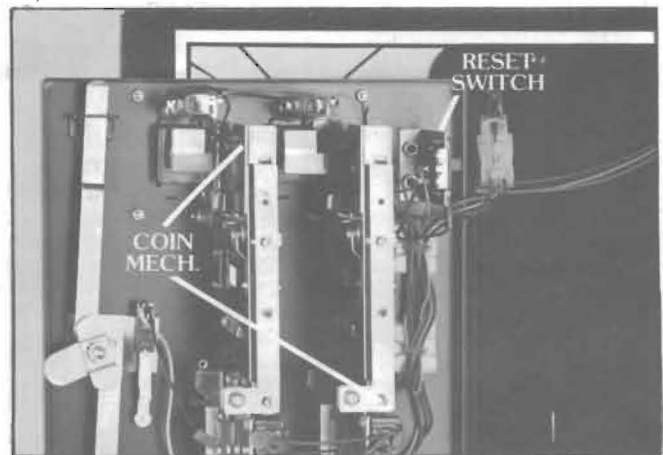

Figure 7. Coin door open, showing coin mechanism and reset switch.
If Power Up Sequence is incorrect, use of the reset switch will reset the game to the correct sequence. The reset switch is located inside the coin door next to the coin mechanism (figure 7).
- (c) Reopen the coin door and push the Reset button on the inside (see figure 7). The machine should reset.